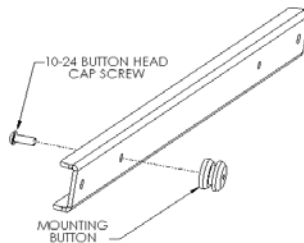
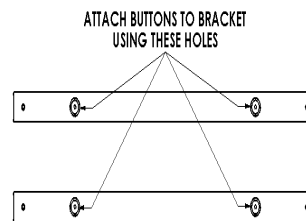

Figure 2
Figure 3
2. Using a 10-24 button head cap screw inserted from back side of bracket, secure mounting button, with chamfered hole of mounting button (larger surface) facing bracket, to top and bottom brackets (four places) (see Figure 2 & Figure 3).